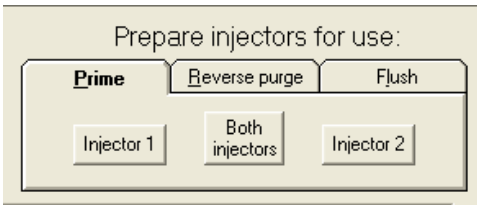

Figure 12
2. Click the "Prime" tab on the "Main Dialog Box." Select the injector(s) you wish to prime. (See Figure 12.)